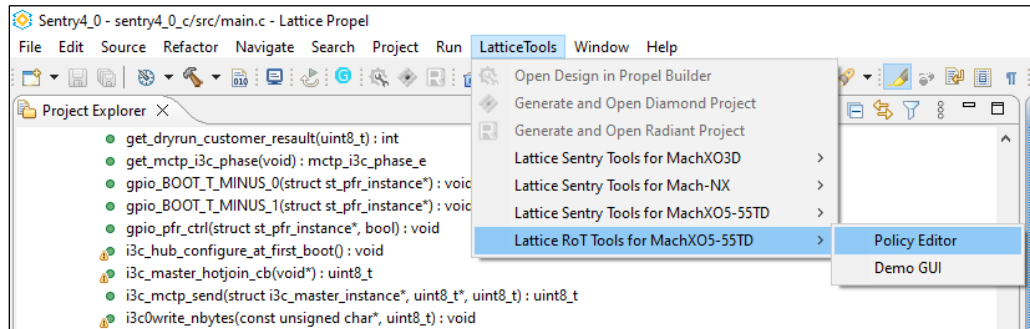

Figure 7.1. Open Policy Editor
2. From the menu, select **Lattice Tools -> Lattice RoT Tools for MachXO5-55TD -> Policy Editor**, as shown in Figure 7.1.